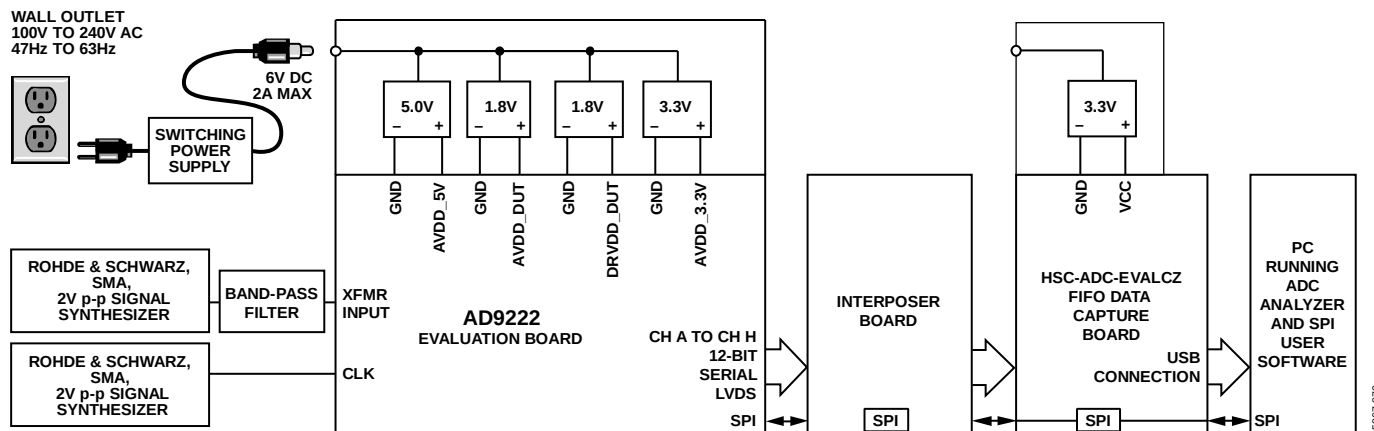
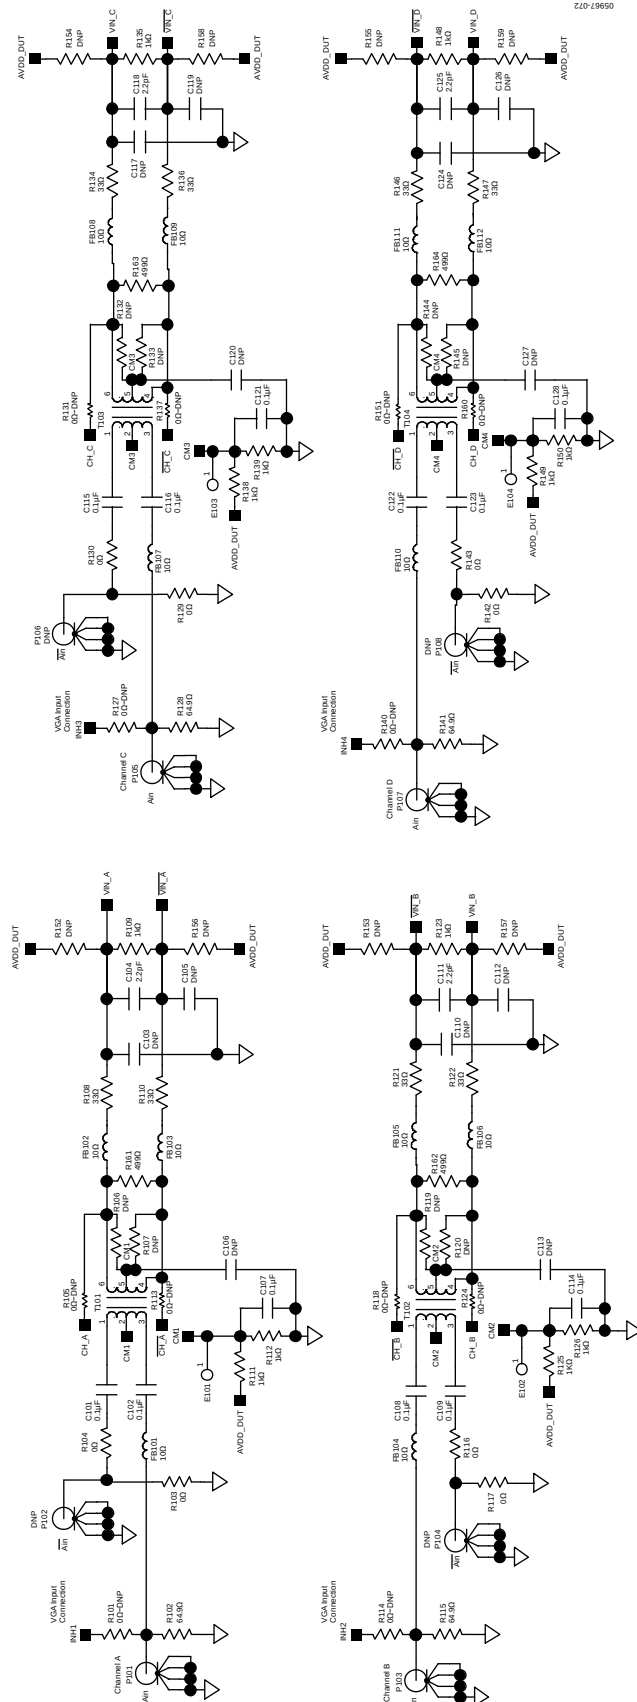
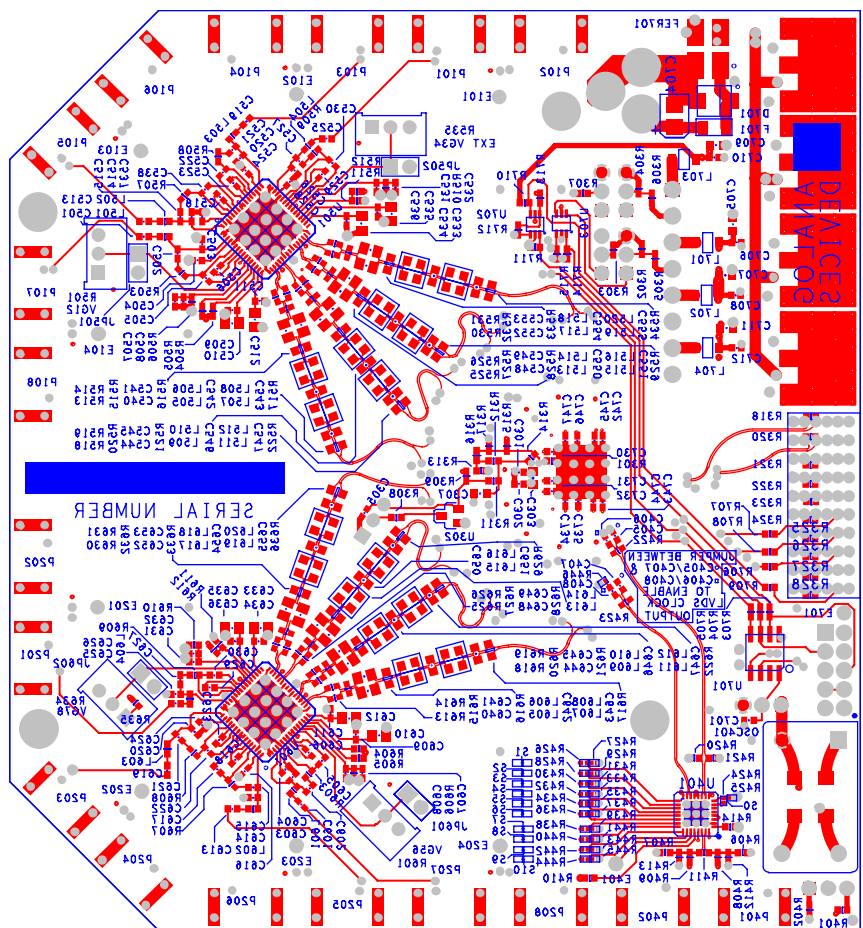

Figure 86. Evaluation Board Connection
Figure 90. Evaluation Board Schematic, DUT Analog Inputs
Figure 100. Evaluation Board Layout, Secondary Side (Mirrored Image)
The AD9222 evaluation board provides all of the support circuitry required to operate the ADC in its various modes and configurations. The converter can be driven differentially using a transformer (default) or an AD8334 driver. The ADC can also be driven in a single-ended fashion. Separate power pins are provided to isolate the DUT from the drive circuitry of the AD8334. Each input configuration can be selected by changing the connection of various jumpers (see Figure 90 to Figure 94). Figure 86 shows the typical bench characterization setup used to evaluate the ac performance of the AD9222. It is critical that the signal sources used for the analog input and clock have very low phase noise (<1 ps rms jitter) to realize the optimum performance of the converter. Proper filtering of the analog input signal to remove harmonics and lower the integrated or broadband noise at the input is also necessary to achieve the specified noise performance.
See Figure 90 to Figure 100 for the complete schematics and layout diagrams demonstrating the routing and grounding techniques that should be applied at the system level.
- **D + x, D - x:** If an alternative data capture method to the setup shown in Figure 90 is used, optional receiver terminations, R318 and R320 to R328, can be installed next to the high speed backplane connector.